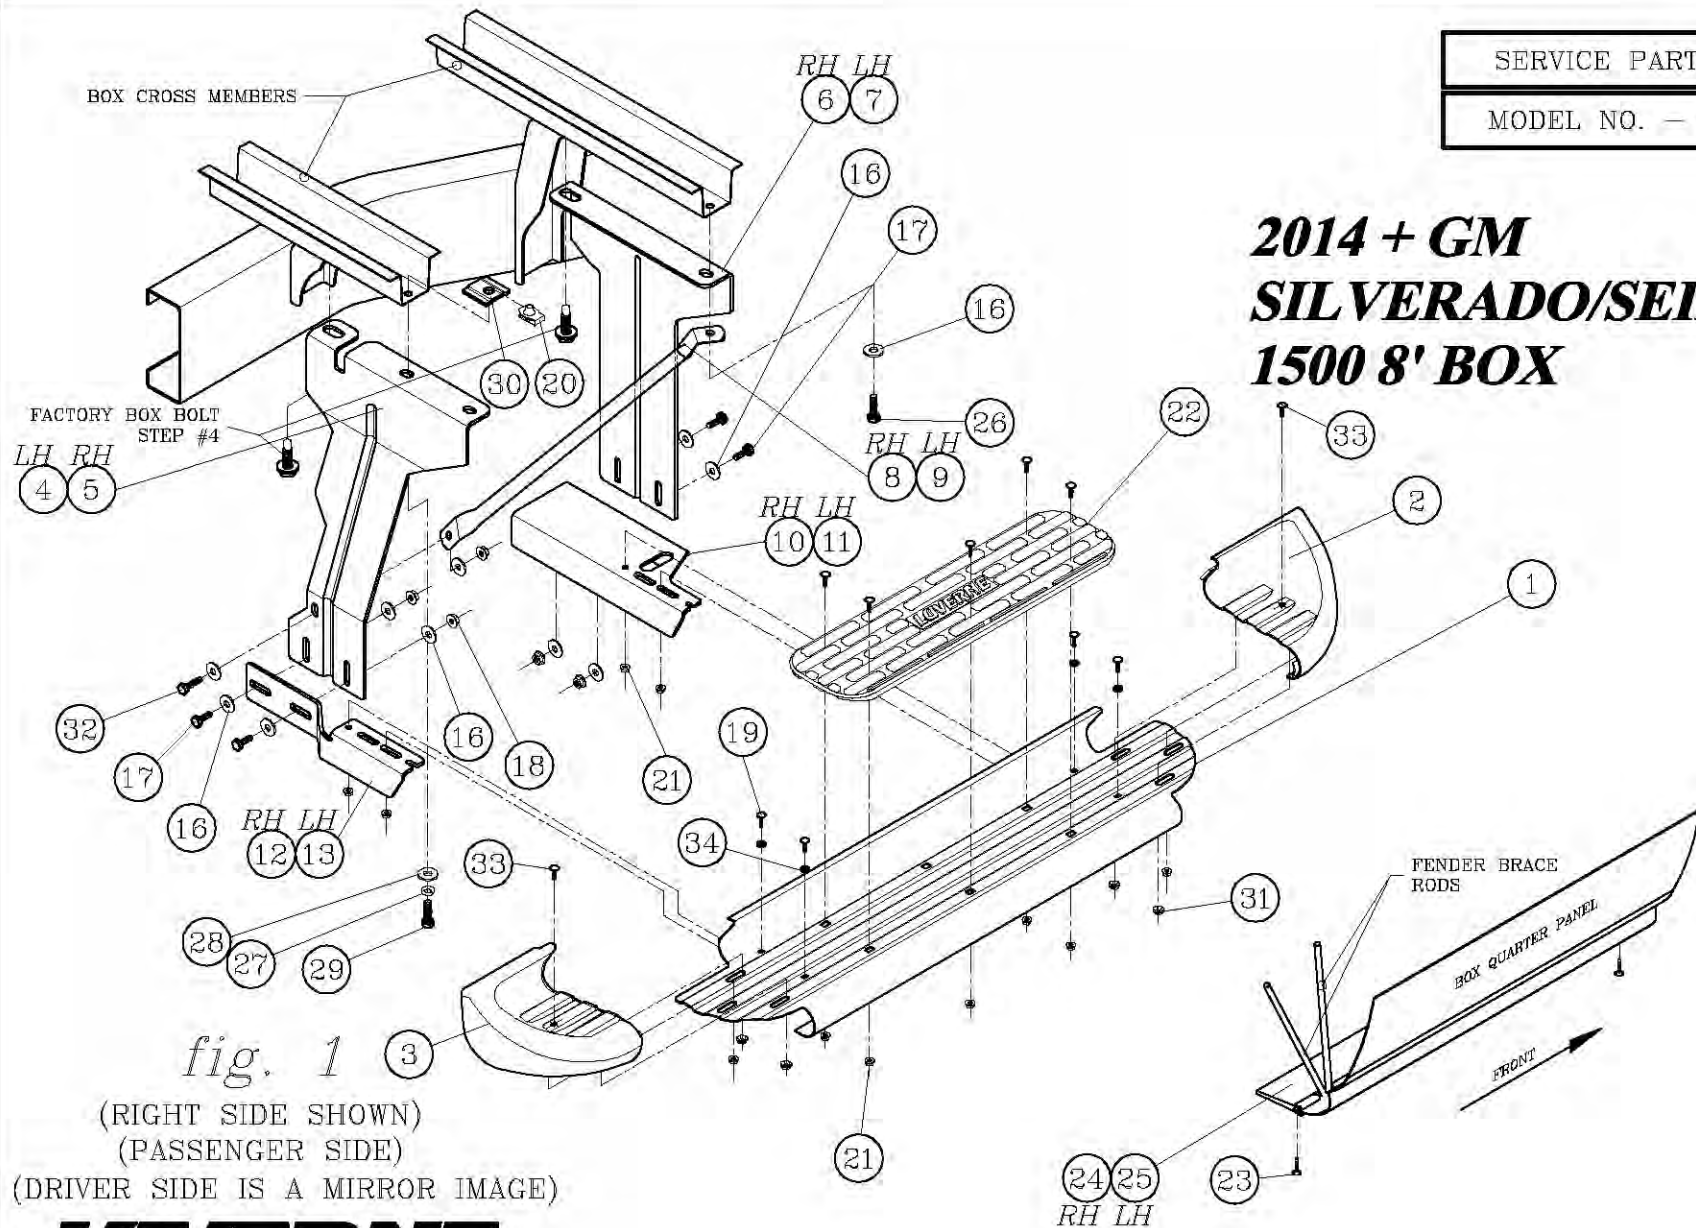

fig. 1
2. REMOVE THE FRONT TWO (2) FACTORY BOLTS THAT SECURE THE BOX TO THE FRAME. REMOVE THE M8 BOLT ON THE OUTER EDGE OF THE FRONT BOX STIFFENER, THIS BOLT WILL NOT BE REUSED.
4. WITH THE VERTICAL BRACES (ITEM #5, & 6) IN PLACE, REINSTALL THE TWO (2) FACTORY BOLTS THAT ATTACH THE BOX TO THE FRAME IN THE INNER MOST HOLES OF THE VERTICAL BRACES (ITEM #5, 6) AS SHOWN IN **(FIG. 1)** LEAVE THEM FINGER TIGHT AT THIS TIME.
5. INSTALL THE M8 X 25mm SCREW (ITEM #26), FLAT WASHER (ITEM #16), THRU THE STRAIGHT END OF THE TUBULAR BRACE (ITEM #8) AND THRU THE OUTER MOST HOLE OF THE FRONT VERTICAL BRACE (ITEM #6). AS SHOWN IN **(FIG. 1 & FIG. 2)**
### **2014+ 1500 TRUCKS ONLY (FIG.1)**
6. INSTALL THE 3/8" U-NUT (ITEM #20) TO THE NUT PLATE (ITEM #30) AND INSERT IT INTO THE END OF THE SECOND BOX CROSS-MEMBER. INSTALL THE 3/8-16 X 1-1/4" HEX BOLTS (ITEM #29), FLAT WASHER (ITEM #28) AND LOCK WASHERS (ITEM #27) UP THRU THE MIDDLE OBOURD HOLE IN THE REAR VERTICAL BRACE (ITEM #4), AND INTO THE U-NUT (ITEM #31). AS SHOWN IN **(FIG. 1)** LEAVE THESE FASTENERS FINGER TIGHT.
8. INSTALL THE OUTBOARD BRACKETS (ITEM # 10, 12) USING THE 5/16-18 X 1" HEX BOLTS (ITEM #17) FLAT WASHER (ITEM #16) AND 5/16-18 FLANGE NUT (ITEM #18) TO THE VERTICAL BRACES AS SHOWN IN **(FIG.1 & FIG. 2)** LEAVE FINGER TIGHT AT THIS POINT.
10. INSTALL STEP PLATE ASSEMBLY ON TO OUTBOARD BRACKETS USING THE 10-24 X 3/4" SST CARRIAGE BOLTS (ITEM #19) NEOPRENE WASHER (ITEM #34) SST FLANGE NUTS (ITEM #21) AS SHOWN IN (FIG. 1 & FIG. 2)